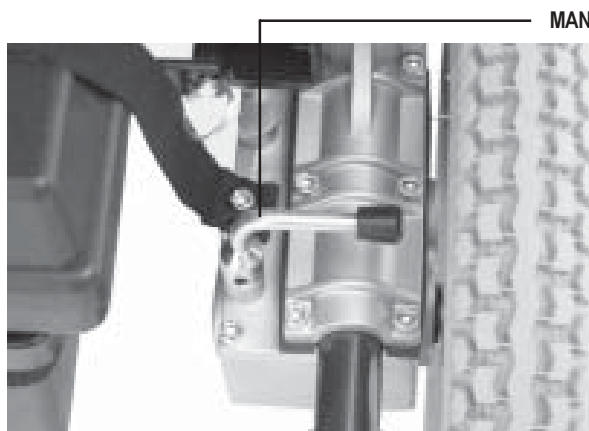

Figure 18. Drive Motors Disengaged (Freewheel Mode)
1. Locate the two (2) manual freewheel levers on the motors. See figures 18 and 19.
2. Rotate the manual freewheel levers outward to disengage the drive wheels. See figure 18.
2. Place the Pride LX in freewheel mode. See figure 18.